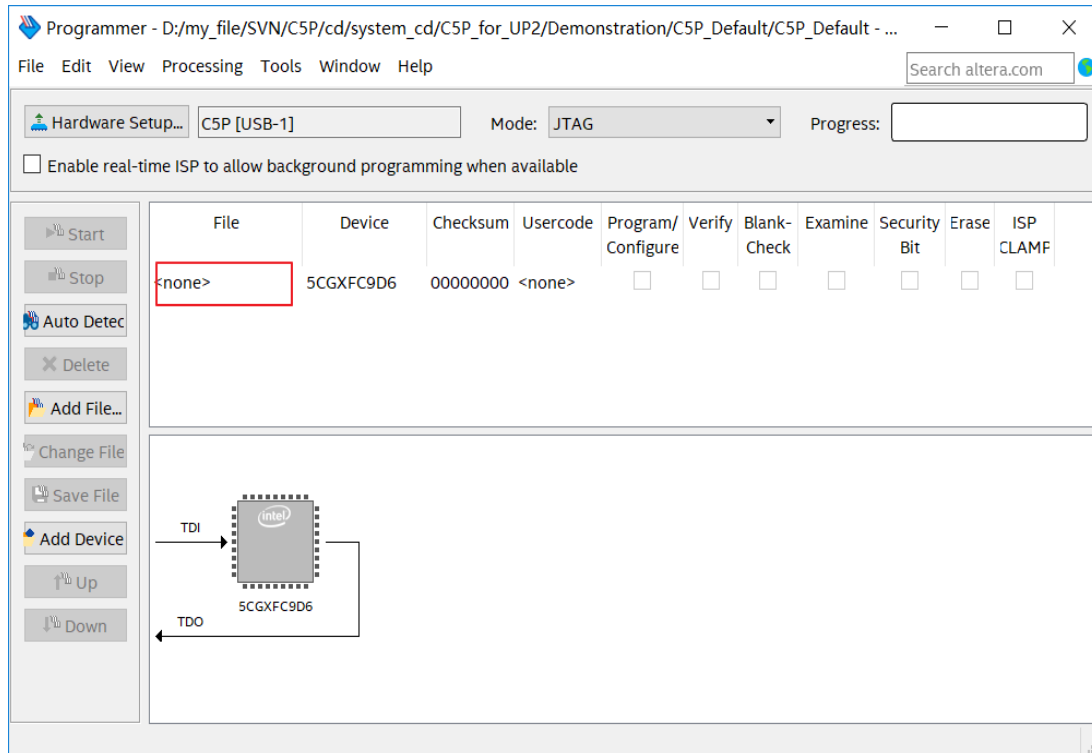

Figure 6-6 Quartus Prime Programmer detecte FPGA device
2. Click **Auto Detect** and then select the correct device. The FPGA device should be detected, as shown in **Figure 6-6**.
3. Double click the red rectangle region, as shown in **Figure 6-6** and the **Select New Programming File** page will appear. Select the .jic file to be programmed.
2. Click **Auto Detect**, and then select correct device, FPGA device will be detected, as shown in **Figure 6-6**.
3. Double click the red rectangle region shown in **Figure 6-6**, the **Select New Programming File** page will appear. Select the correct .jic file.